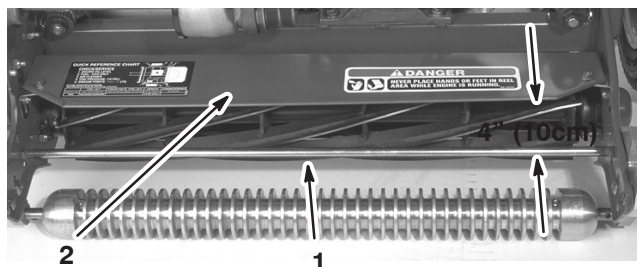

Figure 17
1. Measure the distance from top of the front support rod to the front lip of the shield at each end of the cutting unit (Fig. 17).